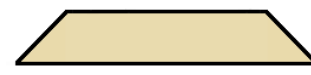

FIGURE 9
- ⇒ Cut the two pieces of 2x2. These should have either a bevel, as shown in *figure 9* or a radius (curve) on one side. The "long side" should be about 8".